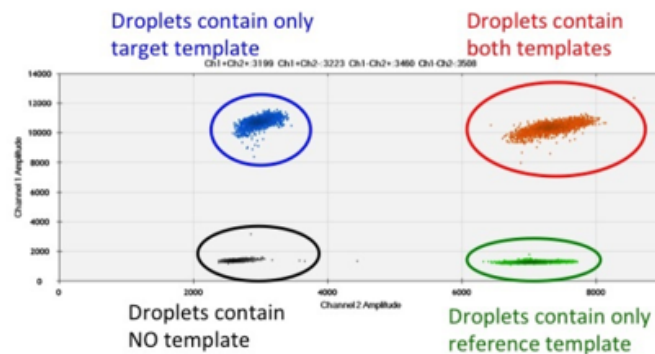

Fig. 1. Two-dimensional scatter plot demonstrating the four clusters obtained with a target and reference allele.
- Optimum annealing temperature range is determined based on the separation between four clusters (Figure 1)